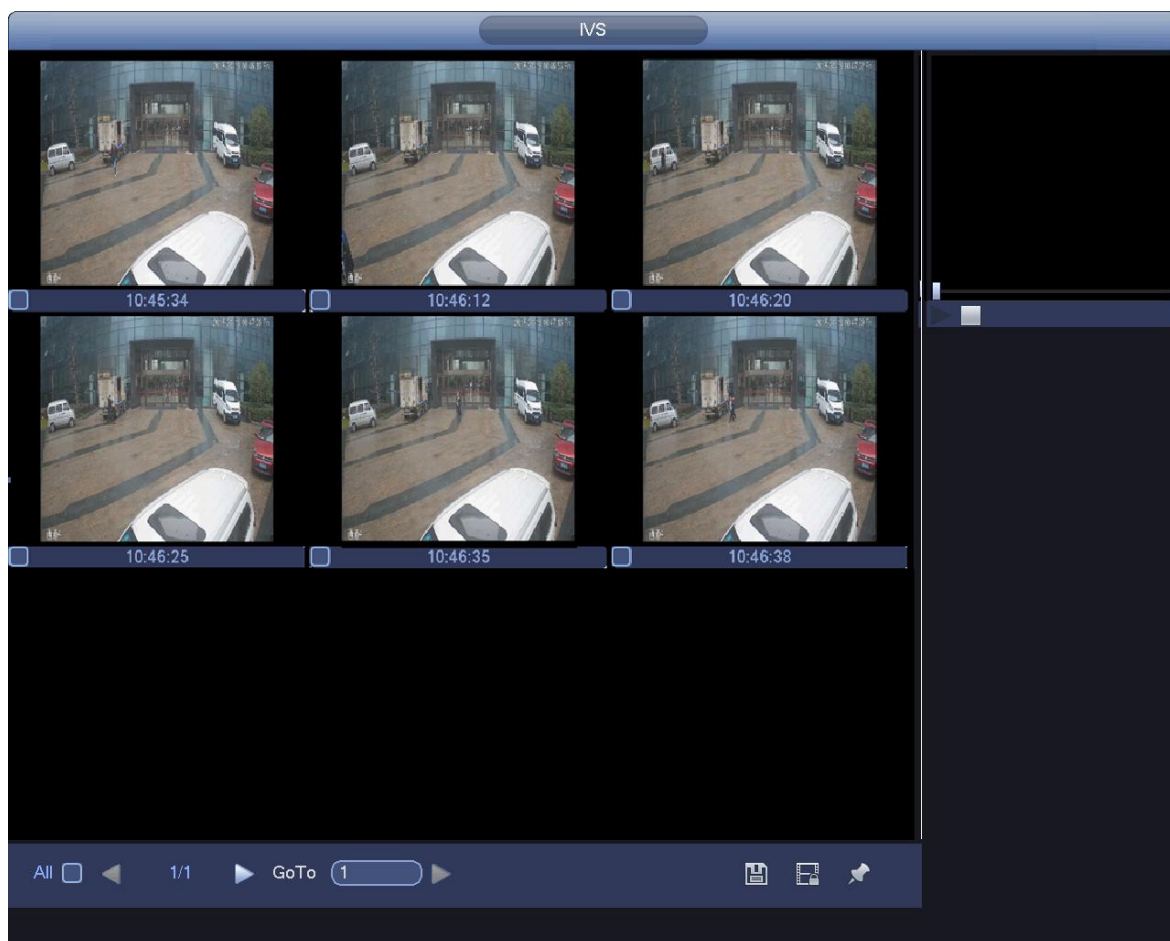

Figure 4-98
- Step 2 Select Channel, Start Time, End Time and Event Type. Click Smart Search. The search results are displayed. See Figure 4-98.